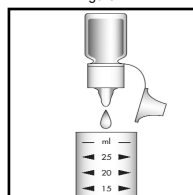

Figure 2
2. Add 3 drops of A-6502 Activator Solution (fig. 2). Stir to mix the contents of the cup.